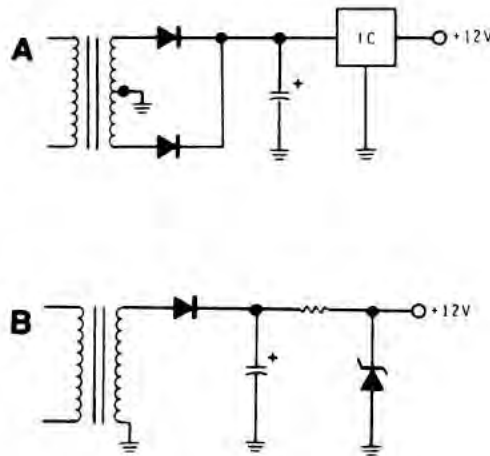

Figure 4-25
11. Identify the circuits in Figure 4-25.
11. The circuits shown in Figure 4-25 are :